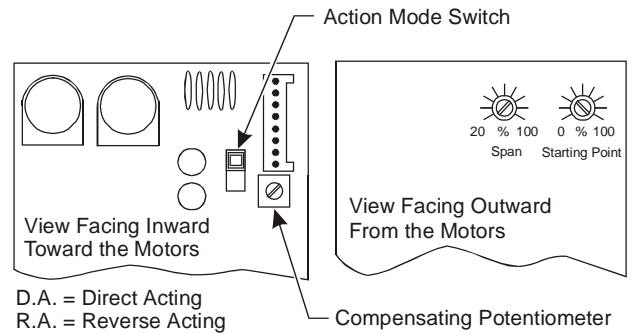

Figure 11: Electronic Positioner Circuit Board
2. Refer to Figure 11 to locate the action mode switch and compensating potentiometer on the inward side of the electronic positioner circuit board. Also, locate the span and starting point potentiometers on the outward side of the electronic positioner circuit board. During the adjustment procedure, it may be necessary to lift the electronic positioner circuit board out of its holder to access the action mode switch and the compensating potentiometer.
10. Adjust the compensating potentiometer (located on the inward side of the circuit board as illustrated in Figure 11) to the center of its rotation range.
17. Set the action mode switch (as illustrated in Figure 11) to the desired direction. In the direct acting mode, the actuator extends down as the control signal increases; in the reverse acting mode, the actuator retracts up as the control signal increases. For both settings, the feedback voltage is maximum when the valve stem is in the fully up position and minimum when the valve stem is in the fully down position.
18. Input the desired minimum control signal to the actuator. Once the valve stops, slowly adjust the starting point potentiometer (as illustrated in Figure 11) in small increments until the actuator no longer strokes and the motor end-of-travel switches turn the motor off. The valve should be in the fully minimum position.
19. Input the desired maximum control signal to the actuator. Once the valve stops, slowly adjust the span potentiometer (as illustrated in Figure 11) in small increments until the actuator no longer strokes and the motor end-of-travel switches turn the motor off. The valve should be in the fully maximum position.
Actuator does not drive in the proper direction.	Move the action mode switch (as illustrated in Figure 11) to Position I for Direct Acting (DA) mode or Position II for Reverse Acting (RA) mode.